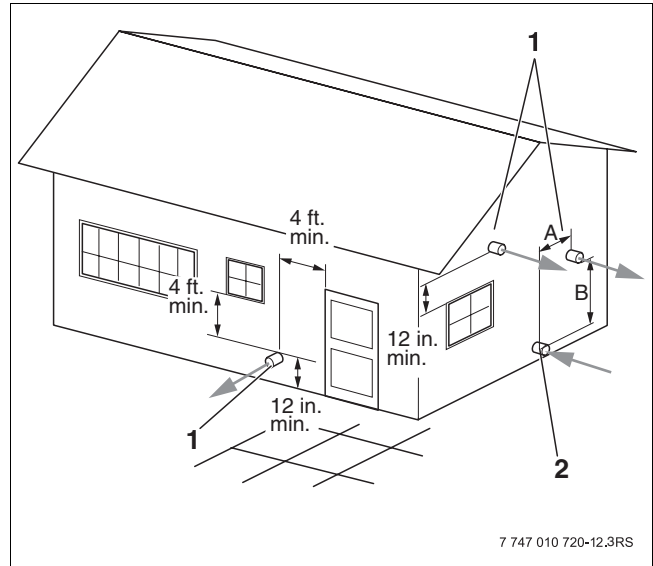
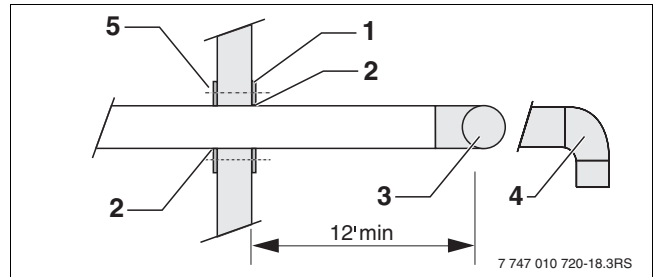

Fig. 12 Specified clearances to ANSI Z223.1 for horizontal flues
Fig. 16 Design of air pipe wall exit
To prevent possible recirculation of flue gas, the flue system installer must take account of effects such as the prevailing wind conditions, any eddy zones, the specifics of the site, etc. in the design of the flue and air supply systems. Buderus can not be held responsible for such potentially deleterious effects on boiler operation. The clearances detailed or illustrated in Fig. 12 and Fig. 16 should be seen as the absolute minimum and may in some circumstances not be adequate for specific installations.
- 1;2 Flue outlet (external-wall flue requires horizontally or vertically mounted T-piece), observe clearances specified in Fig. 12